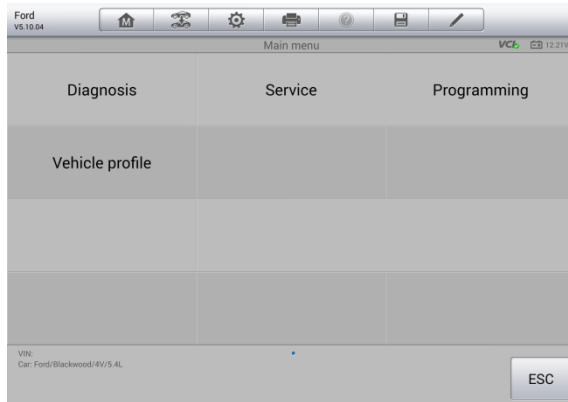

Figure 4-3 Sample Vehicle Diagnostics Screen
5. Tap **Done**. The vehicle will be identified in a few seconds, and once the matching is successful, the system will guide you to the Vehicle Diagnostics screen directly. (*Figure 4-3*)
The Vehicle Diagnostics screen (*Figure 4-3*) has three main options: